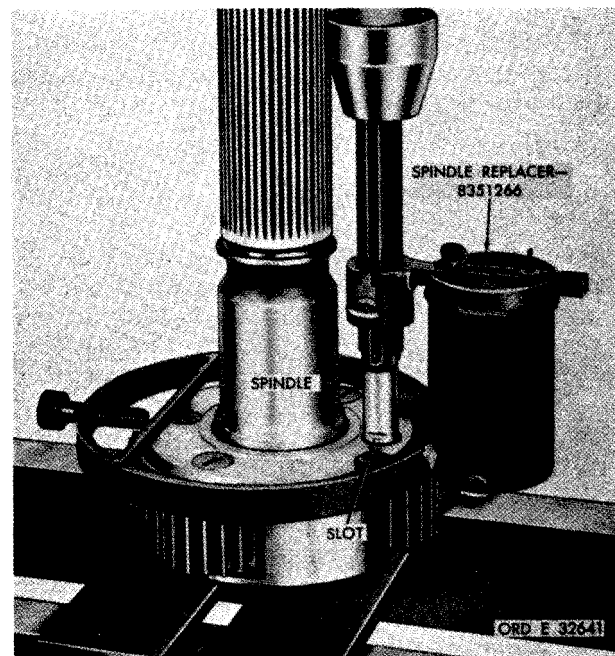

Figure 222. Installing planetary carrier spindle
the planetary carrier and position the spindle for installation. See fig. 222.
i. With a press and spindle replacer 8351266, install planetary carrier spindle (fig. 222). The spindle replacer will bottom against the carrier when the spindle is properly positioned in the carrier.